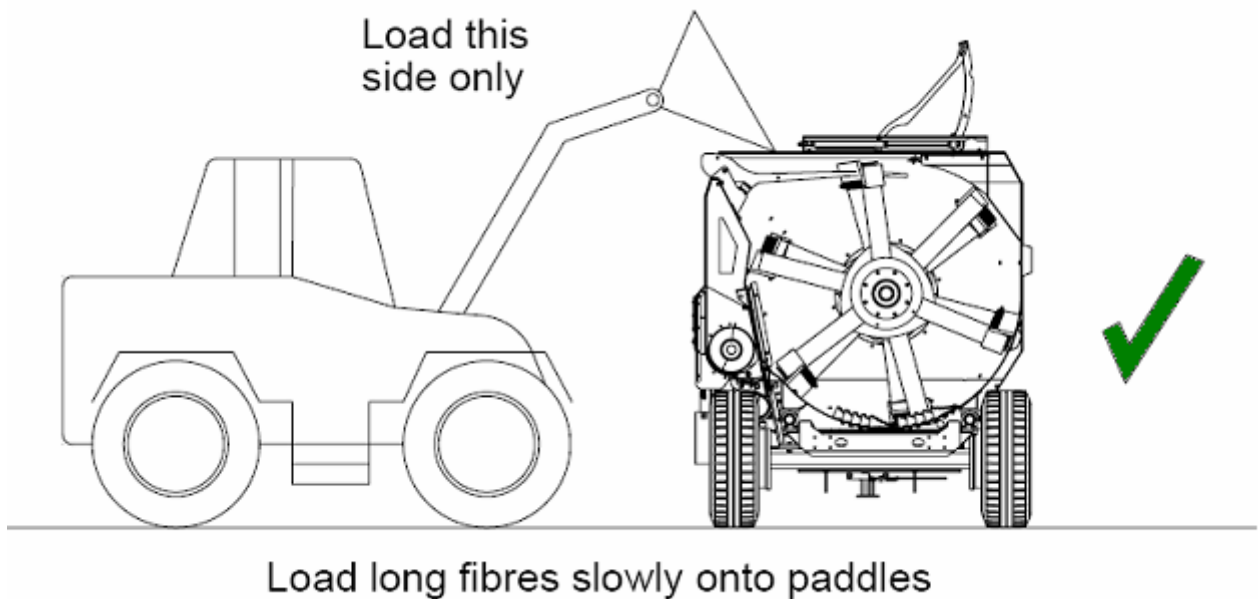

Figure 7: Loading the KEENAN mixer wagon
- o)** Load only from the side indicated — see figure 7 (auger chamber side), using suitable equipment.